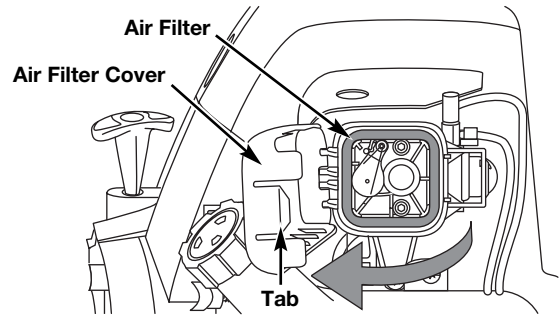

Fig. 23
1. Open the air filter cover. Push the tab on the right side of the cover inward. Then pull the air filter cover out and to the left (Fig. 23).
2. Remove the air filter (Fig. 23).